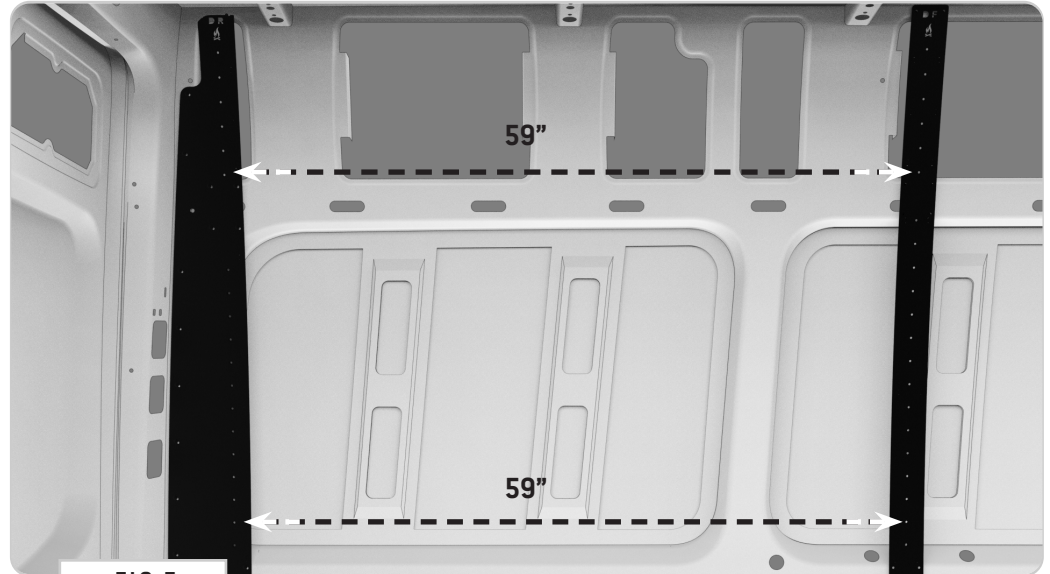

FIG 7
4.1 Measure Bracket Spacing: Once you have the **Bed Brackets** held in place, you'll need to confirm that the distance between rail mounting points are square at 59" thread insert to thread insert (**FIG 7**).